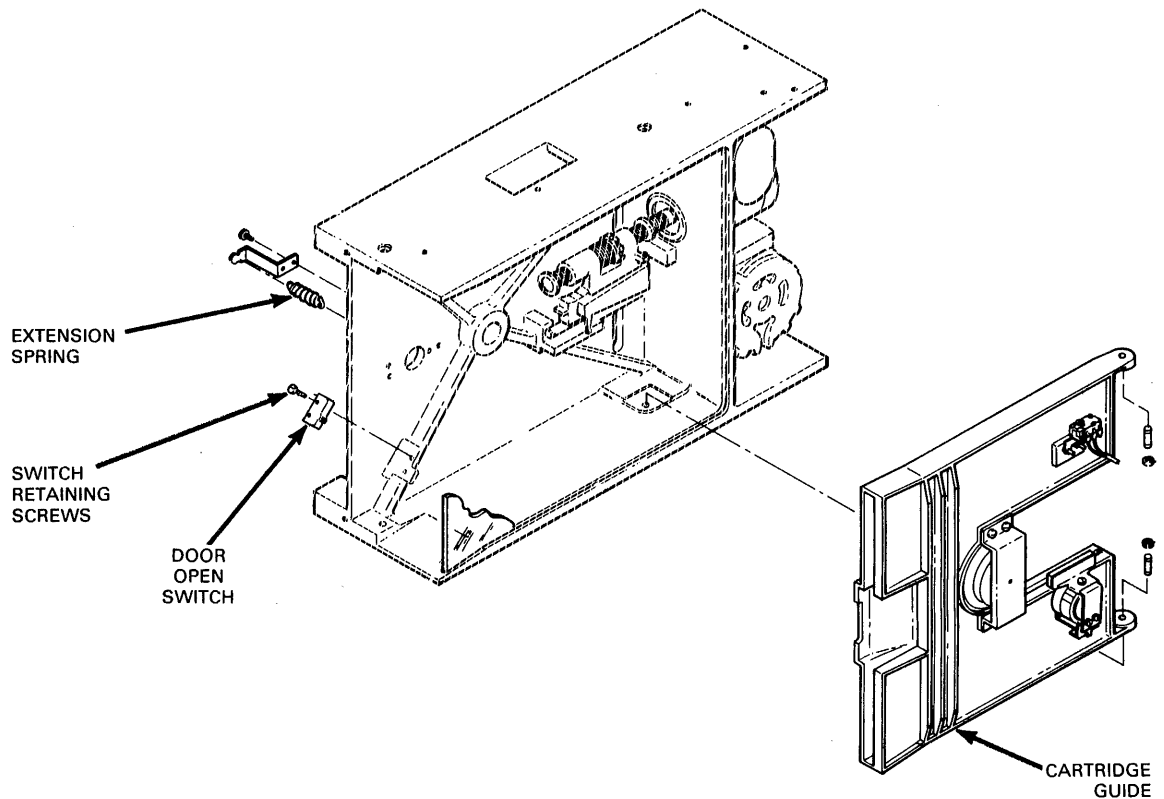

Figure 5-18. Door Open Switch Removal and Replacement
3. Disconnect and remove extension spring (Figure 5-18).
1. Insert switch leads through baseplate access hole, and position switch on baseplate (Figure 5-18).